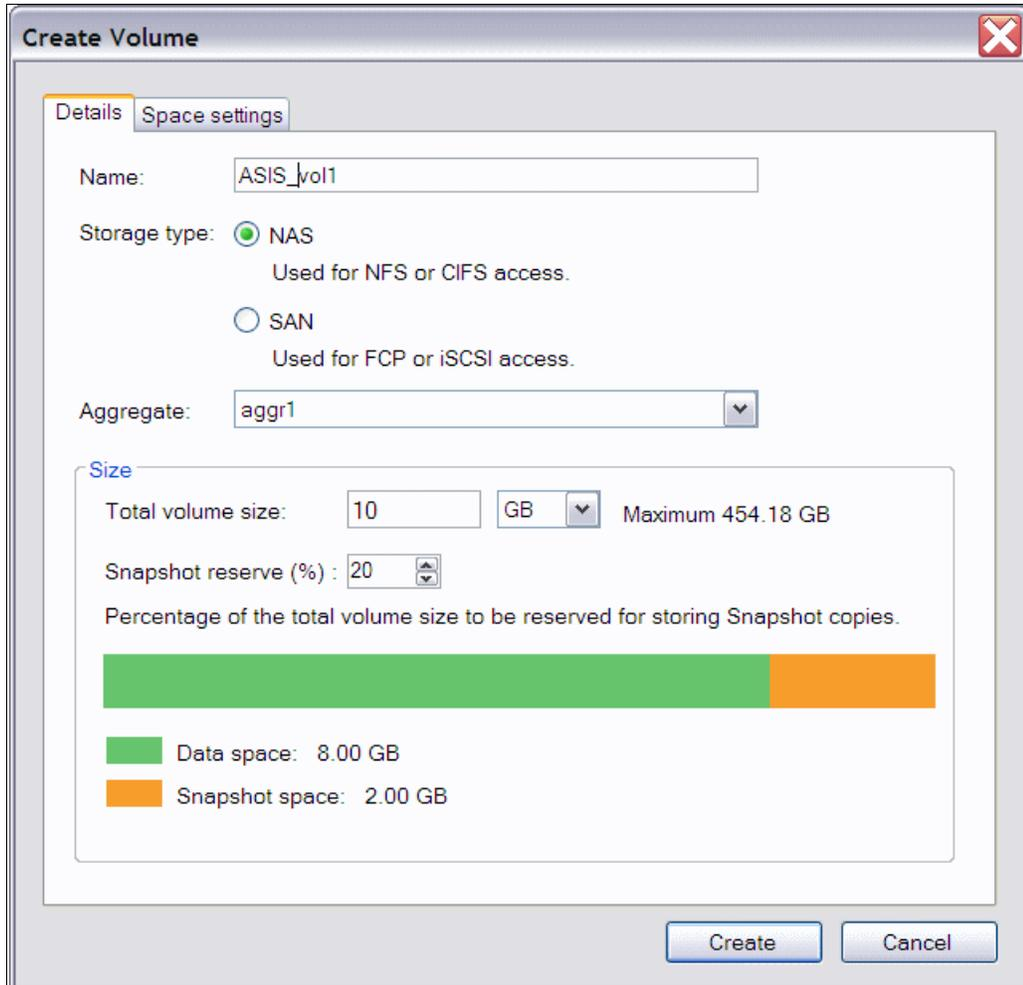

Figure 7-11 Volume creation
2. Enter the name (we typed ASIS\_vol1), select the storage type (NAS), the aggregate (aggr1), the size (10 GB), and the space guarantee settings (none, in our example) as shown in Figure 7-11 on page 210.